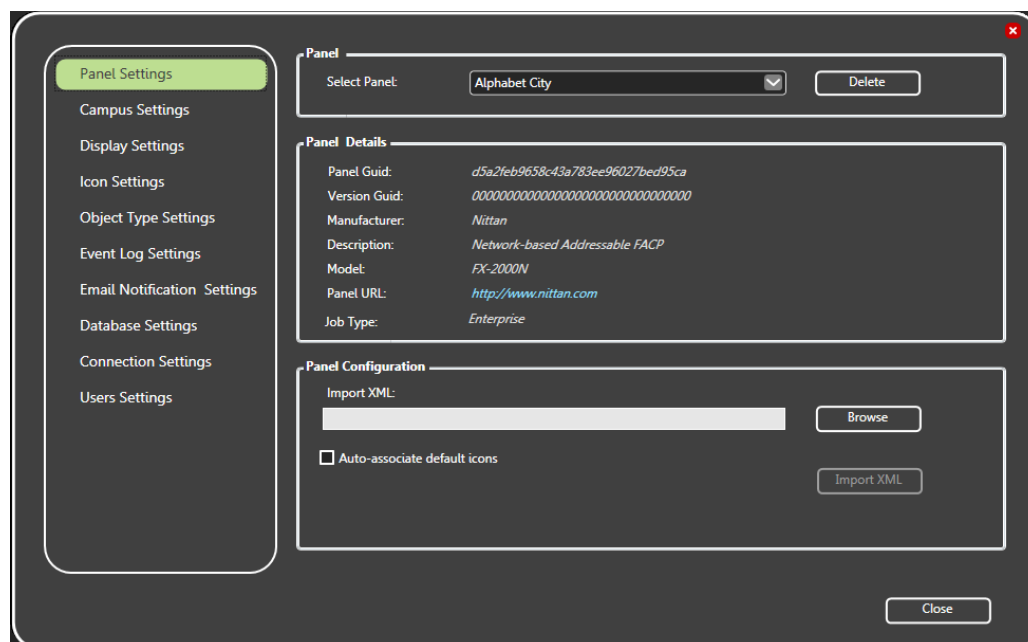

Figure 46 Panel Settings
- Click the **Panel Settings** tab (see Figure 46).
The Panel Settings window appears (see Figure 46 on page 66).